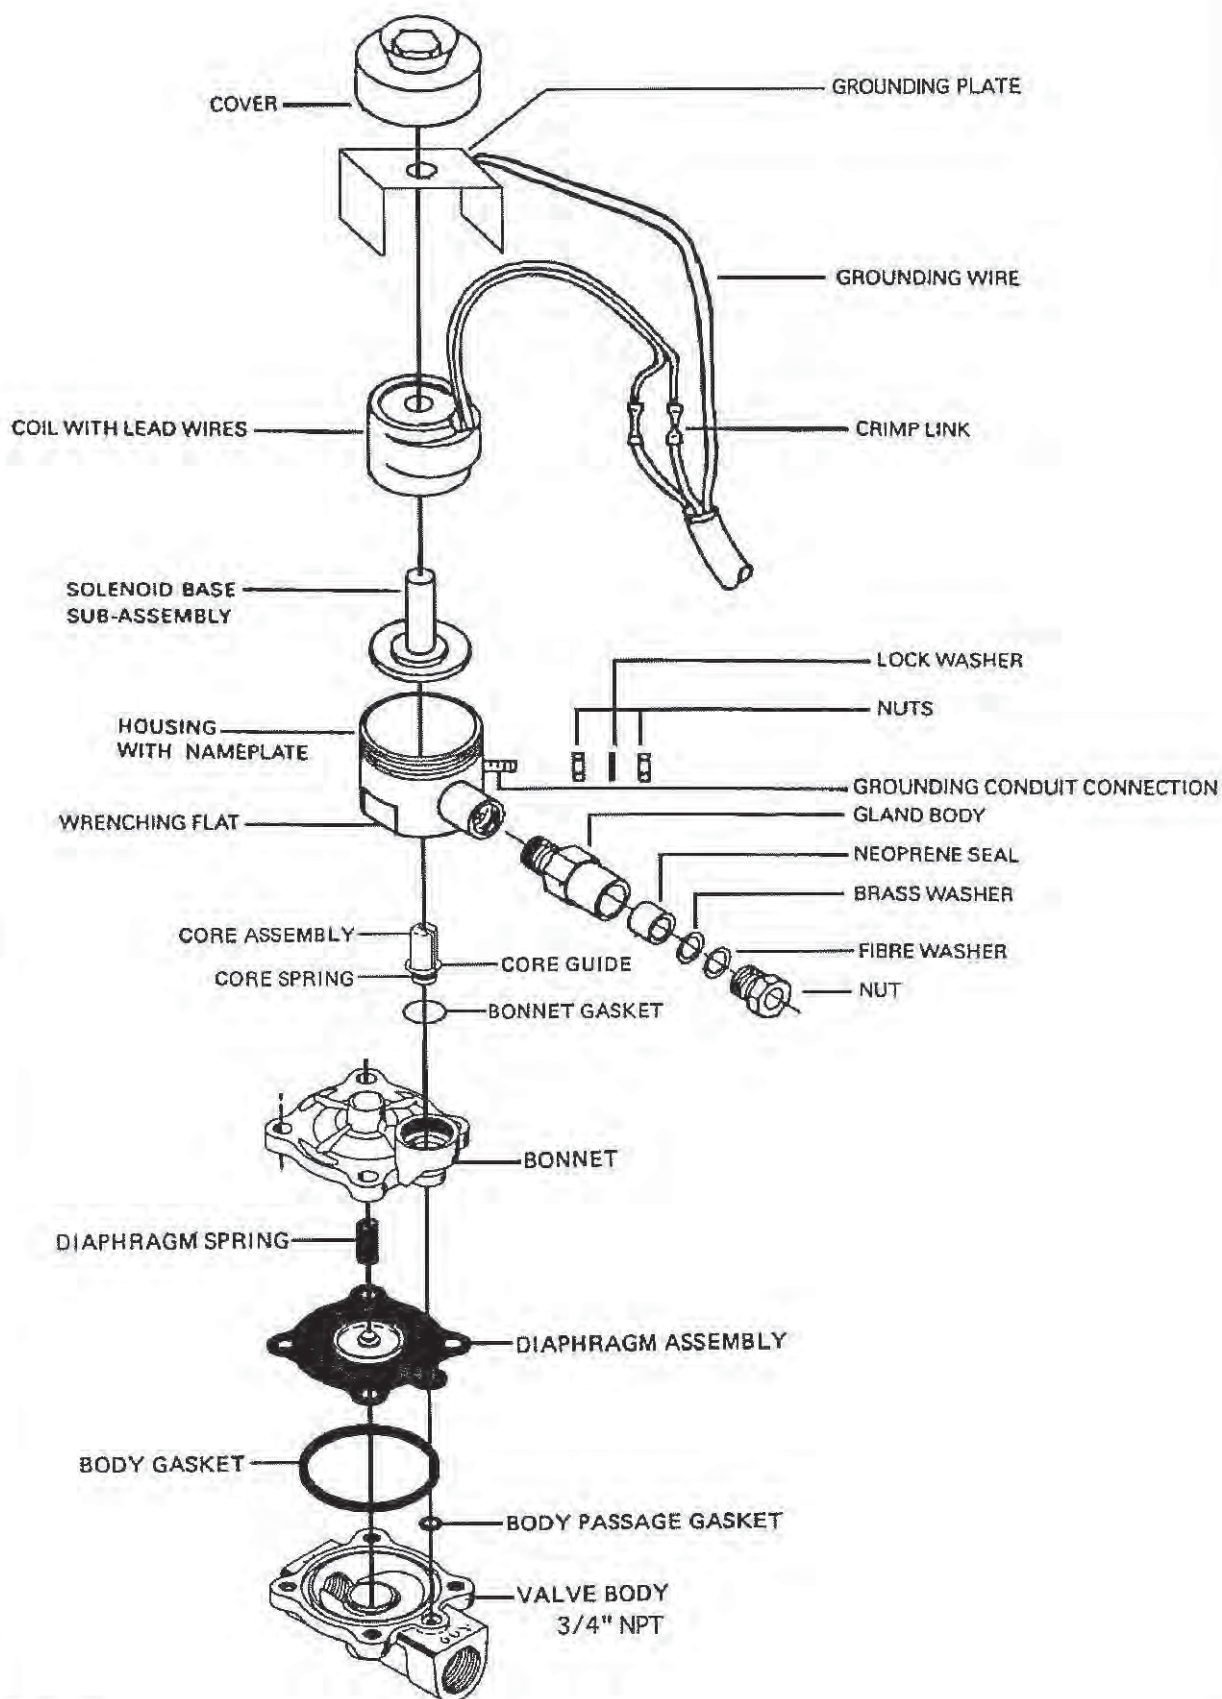

Figure 2
Positioning / Mounting (Refer to Figure 2)
4. Reassemble in reverse order of disassembly paying careful attention to exploded view provided for identification and placement of parts. (See figure 2)
Valve Disassembly & Reassembly (Refer Figure 2)